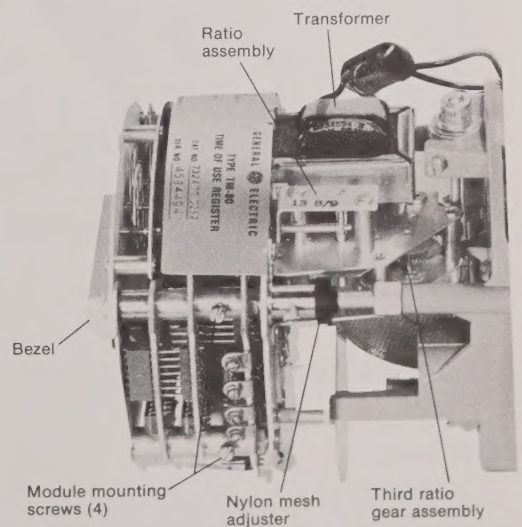
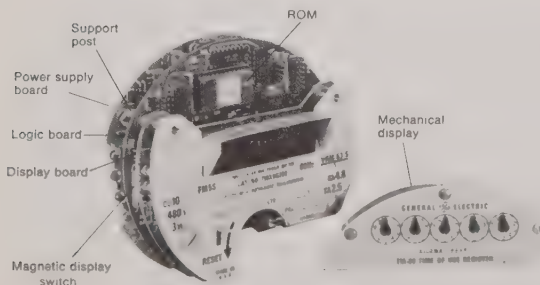

Fig. 3. TM-80 register installed on Type IRM-70 meter (right view).
Fig. 5. TM-80 register module with mechanical display removed.
is plugged into the adapter and held in position by four mounting screws. See Fig. 3.
The mechanical register is a TM-80 optional feature. It consists of two parts: (1) the mechanical display attached to the upper front of the electronic module (shown removed in Fig. 5) and (2) the ratio assembly attached to the back of the adapter assembly (see Fig. 3). Both are removable, thereby making TM-80 registers available without mechanical displays. This option provides an upper front plate assembled in place of the mechanical display.
The electronic module consists of (1) three printed circuit boards identified in Fig. 5; (2) the mechanical display; (3) the front plate with digital display bezel; (4) the antiglare window and (5) the meter information nameplates. These all are modularly assembled on the four support posts as shown in Fig. 5.
The logic board, located in the center of the module, contains the register logic, a part of which is the replaceable ROM shown plugged into a socket that is located behind the removable mechanical display. See Fig. 5.
NOTE: The watthour-meter register ratio (R_r) is stamped on the ratio assembly (see Fig. 5). This